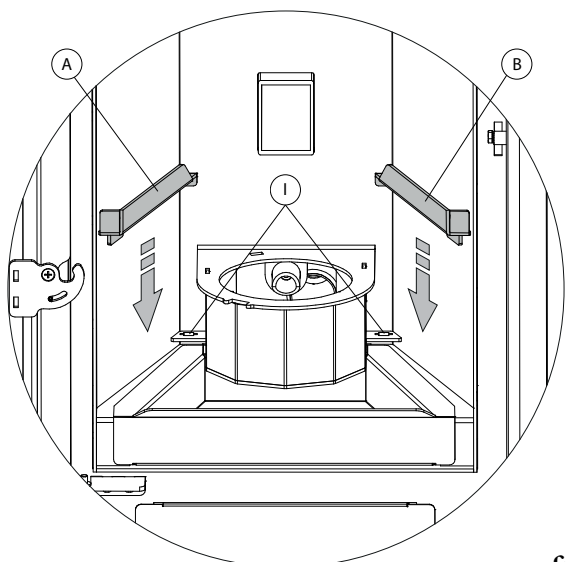

fig. 5.4.3
- Insert the two supports A and B taking care that the two blades present in the rear part of the supports are inserted into the suitable slots I inside the combustion chamber (Fig. 5.4.3 - Fig. 5.4.4)